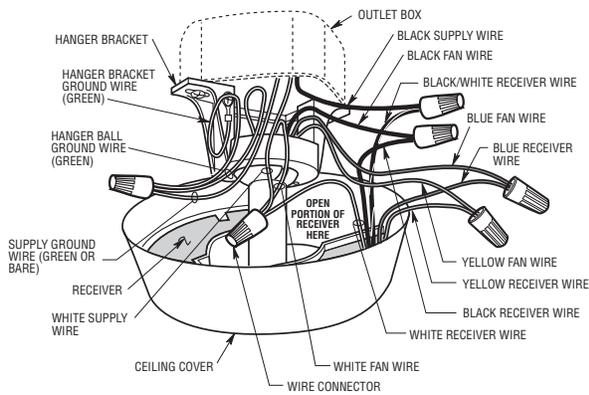

Figure 23
- 1. Pull the wire leads, coming from the end of the downrod, and the supply wires through the open side of the hanger bracket. (Figure 23).
- 2. Position the SW105 Receiver (supplied) in the ceiling cover so that the flat side of the receiver faces up and the open portion of the receiver is to the right, as shown in Figure 23.
- 3. Using wire connectors (supplied), make wiring connections as follows (Figure 23 and 24):